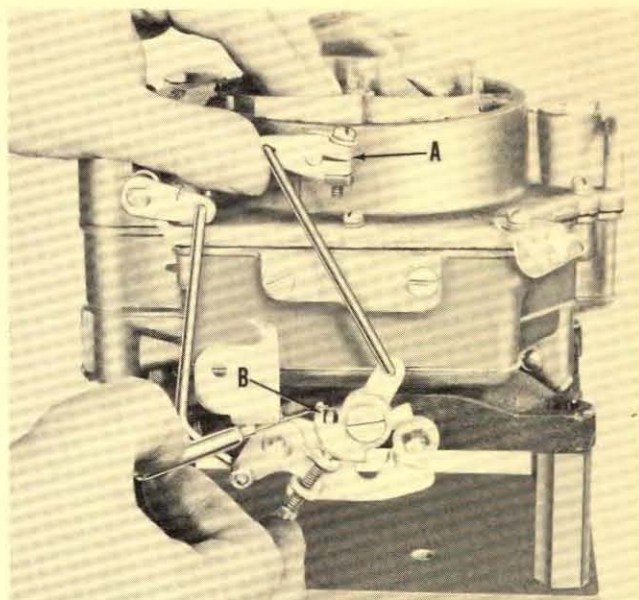

Fig. 12
A. Loosen choke lever clamp screw on choke shaft, "A" Fig. 12. Insert .020" wire gauge Tool No. T109-29 between lip of fast idle cam and boss of flange casting, "B" Fig. 12. Hold choke valve tightly closed and take slack out of linkage by pressing choke lever toward closed position, hold in place and tighten clamp screw "A."